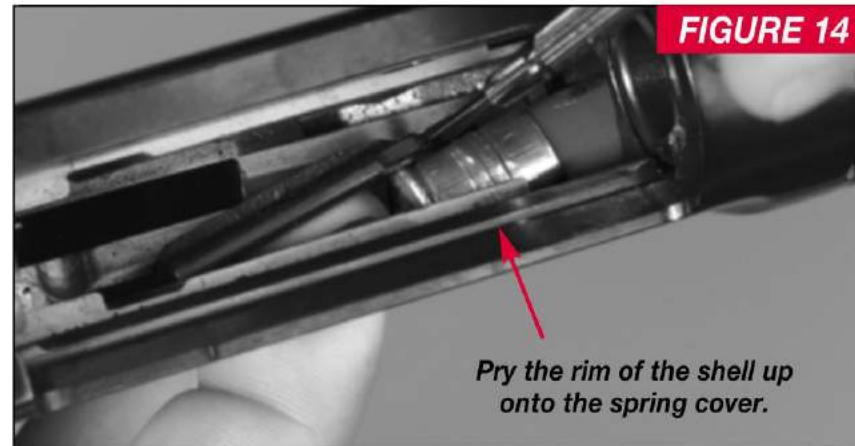

FIGURE 14
4. Remove your other hand from the finger lever and use your finger or the end of a small screwdriver to push (gently pry) the rim of the shell to the right until it rides up on the spring cover slightly (Figure 14).